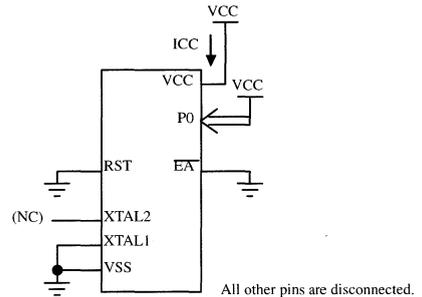

Figure 19. ICC Test Condition, Power Down Mode.
- Idle ICC is measured with all output pins disconnected; XTAL1 driven with TCLCH, TCHCL = 5ns, $V_{IL} = V_{SS} + 0.5\text{V}$, $V_{IH} = V_{CC} - 0.5\text{V}$; XTAL2 N.C.; Port 0 = VCC; $\overline{EA} = \text{RST} = V_{SS}$ (see Figure 19.).
- Power Down ICC is measured with all output pins disconnected; $\overline{EA} = \text{PORT } 0 = V_{CC}$; XTAL2 NC.; RST = VSS (see Figure 19.).